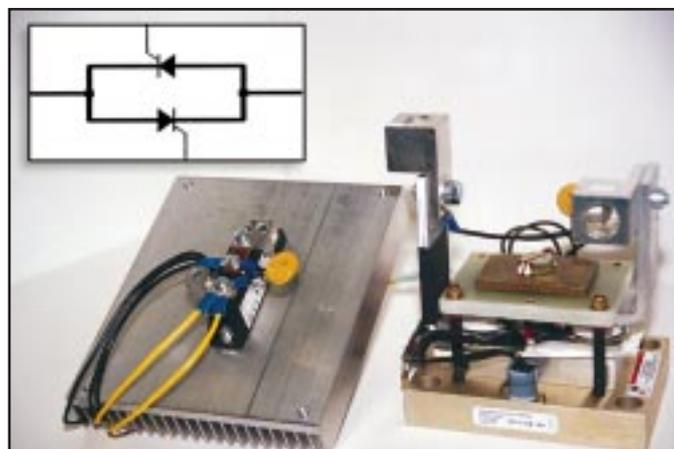

Figure 4
2. SCR contactor shorted. A more common problem is a shorted SCR contactor. This device actually is two SCRs mounted in a single water- or air-cooled assembly. **Figure 4** shows typical SCR contactors and a schematic drawing of the assembly.